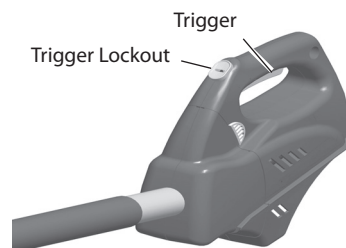

Figure 29 - Polesaw Handle with Trigger Lockout
4. When ready to make a cut, press in trigger lockout and squeeze trigger (see Figure 29). This will turn polesaw on. Releasing trigger will turn polesaw off. Make sure saw is running before starting a cut.